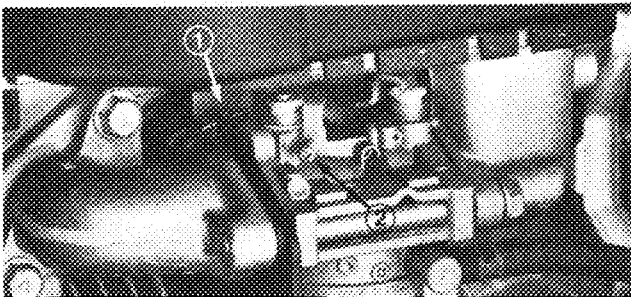

Figure 20
1. Idle Mixture Screw (Fig. 20) — Close screw by gently rotating it clockwise.
2. Rotate — open — the screw  $1\frac{1}{8}$  turns counterclockwise (Fig. 20).